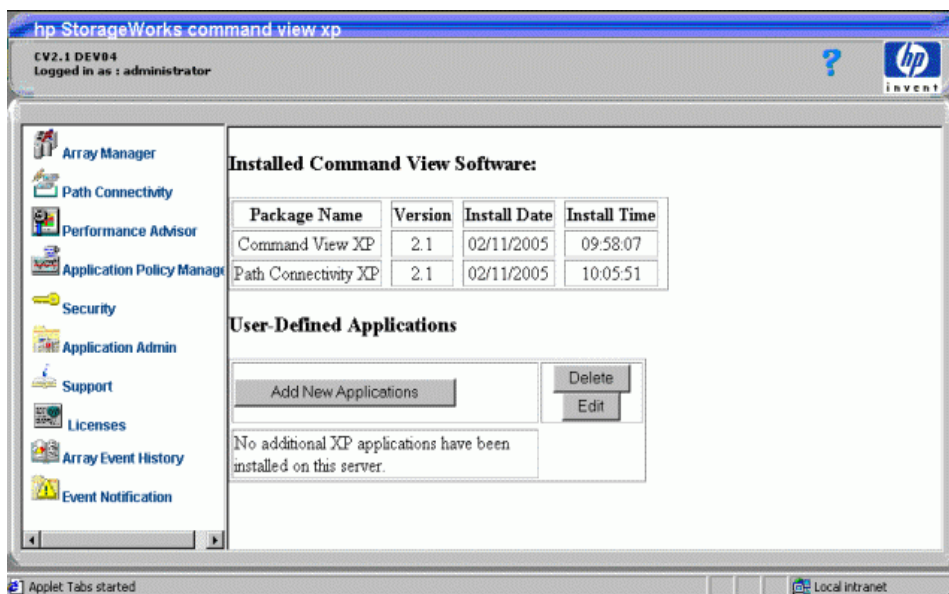

Figure 17 Application Administration pane
1. From the Application Administration pane (Figure 17), select the check box beside the application you want to delete.